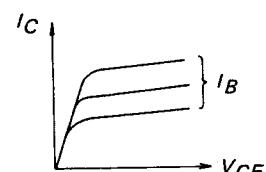

Fig. 11
2. The characteristics of this drive transistor are indicated in Fig. 11. The variation of collector current  $I_C$  relative to collector-emitter voltage  $V_{CE}$  is not sinusoidal, but produces a square wave that causes unnecessary vibration in the motor.